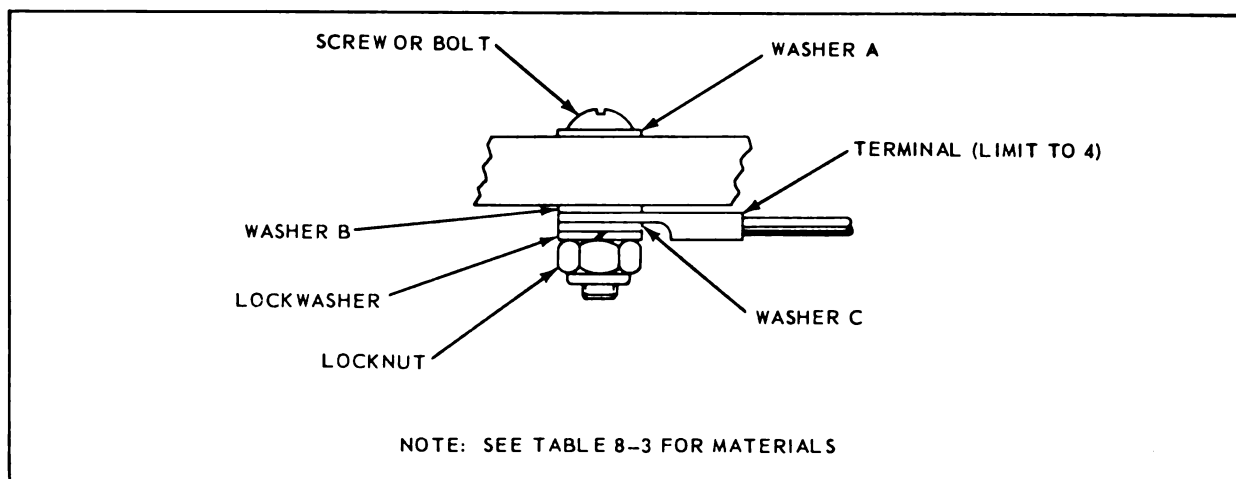

Figure 8-3. Bolt and Nut Bonding or Grounding to Flat Surface
(Refer to Figure 8-3)
c. Nut and bolt connection: (See figure 8-3 and table 8-3) In this connection the bolt or screw is not attached permanently to structure. When jumpers are to be added or removed, the entire connection is remade.